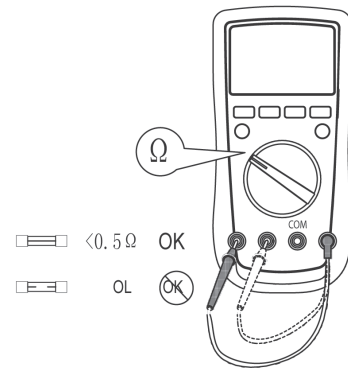

Figure 13
B. Testing the Meters Fuse (See Figure 13)
C. Replacing the Fuses (See Figure 13)